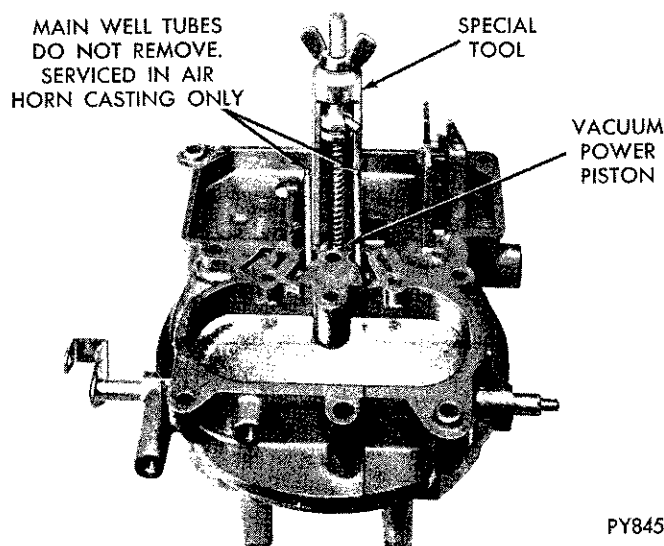

Fig. 11—Removing Vacuum Power Piston
(14) Remove vacuum power piston from air horn, using tool C-4141 (Fig. 11). (This assembly is staked in position and care must be used at removal.) Remove staking using a suitable sharp tool.